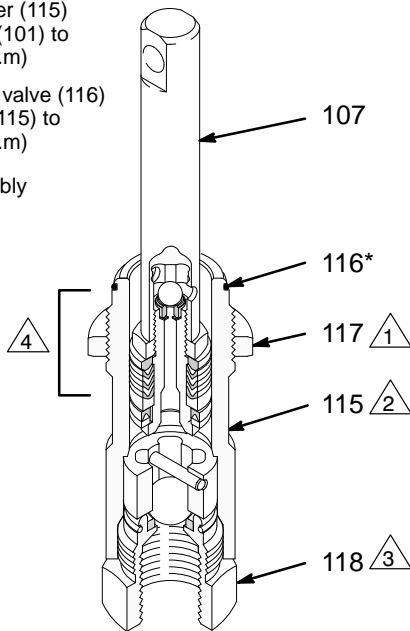

Fig. 21 05118
11. Place a new o-ring (116*) firmly in the cylinder groove. See Fig. 21.
12. Coat the piston rod and packings with oil. Carefully slide the assembly **into the top of the cylinder (115)**. See Fig. 21.
13. Put the manifold upside down in a vise. Fully thread the jam nut (117) onto the cylinder (115). Guide the rod/cylinder assembly down through the manifold (101). Screw the cylinder (115) into the manifold. See Fig. 21.
- 1 Torque jam nut (117) to 73 ft-lb (98 N.m)
- 2 Torque cylinder (115) into manifold (101) to 53 ft-lb (71 N.m)
- 3 Torque intake valve (116) into cylinder (115) to 53 ft-lb (71 N.m)
15. Torque the cylinder jam nut (117) to 73 ft-lb (98 N.m). See Fig. 21.